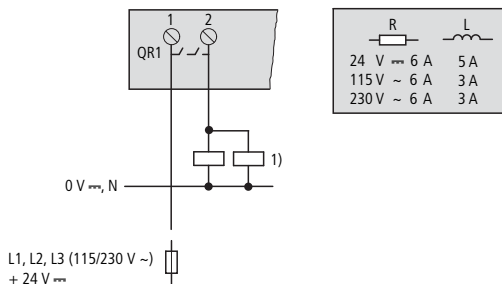

Figure 14: ES4P-221-DM... redundant relay output
- use of the internal redundant relay output QR1 (ES4P-221-DM...), → figure 14 on page 51.